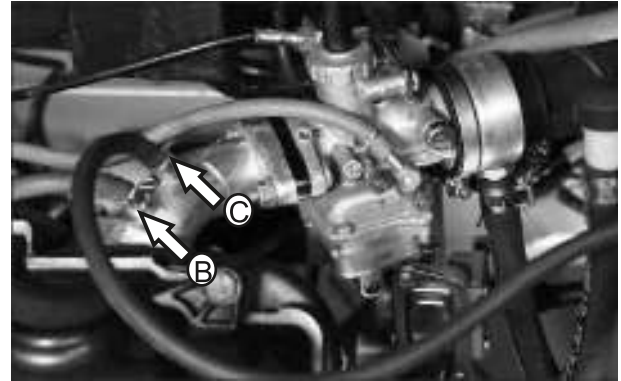

Fig. 3.4
- Dislocate the clip and disconnect the hose air cut valve intake pipe (B) from the pipe intake complete. (Fig. 3.4) (wherever applicable)
- Dislocate the clip and disconnect vacuum hose (LPG reducer unit) (C) from the pipe intake complete.(Fig. 3.4) (wherever applicable)